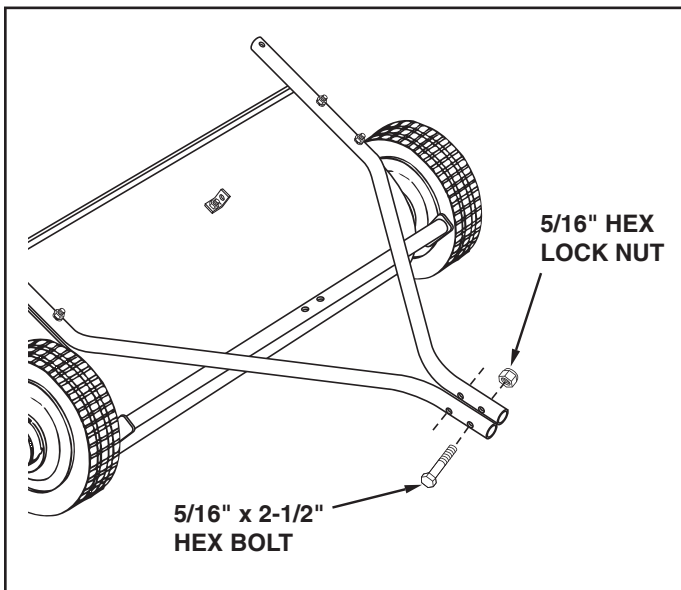

FIGURE 3
- Fasten the hitch tubes together using two 5/16" x 2-1/2" hex bolts and 5/16" hex lock nuts. **Do not tighten yet.** See figure 3.